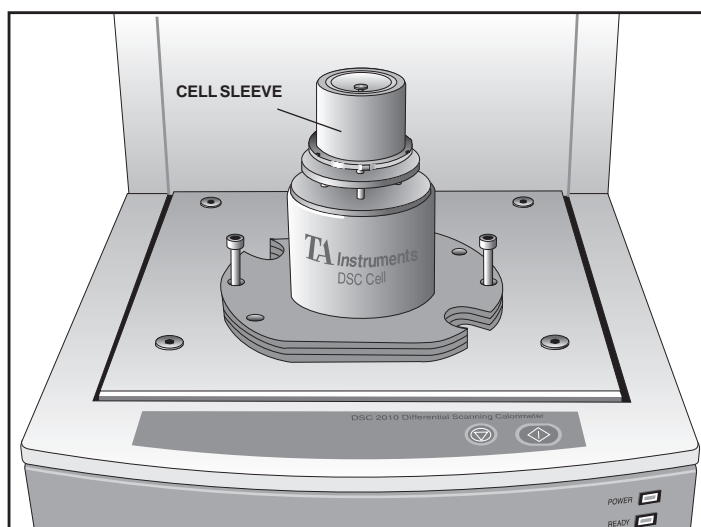

Figure 2.3
4. Place the three gaskets onto the cell base plate as shown in Figure 2.3, aligning the holes in the gaskets over the two threaded holes in the base plate.